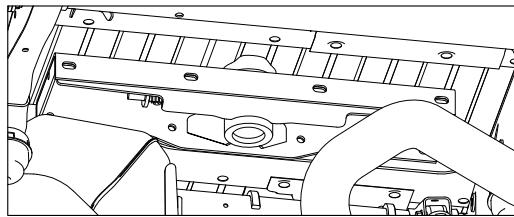

FIGURE B6: View of Truck Bed looking towards front of truck.
**2B. Stage center section.** Raise the center section into place as shown in figure B6, staging it for installation. When staged correctly, the receiver socket will be "offset" toward the rear of the truck. It may be helpful to pull down on the exhaust while positioning to allow extra room for maneuvering it into position.